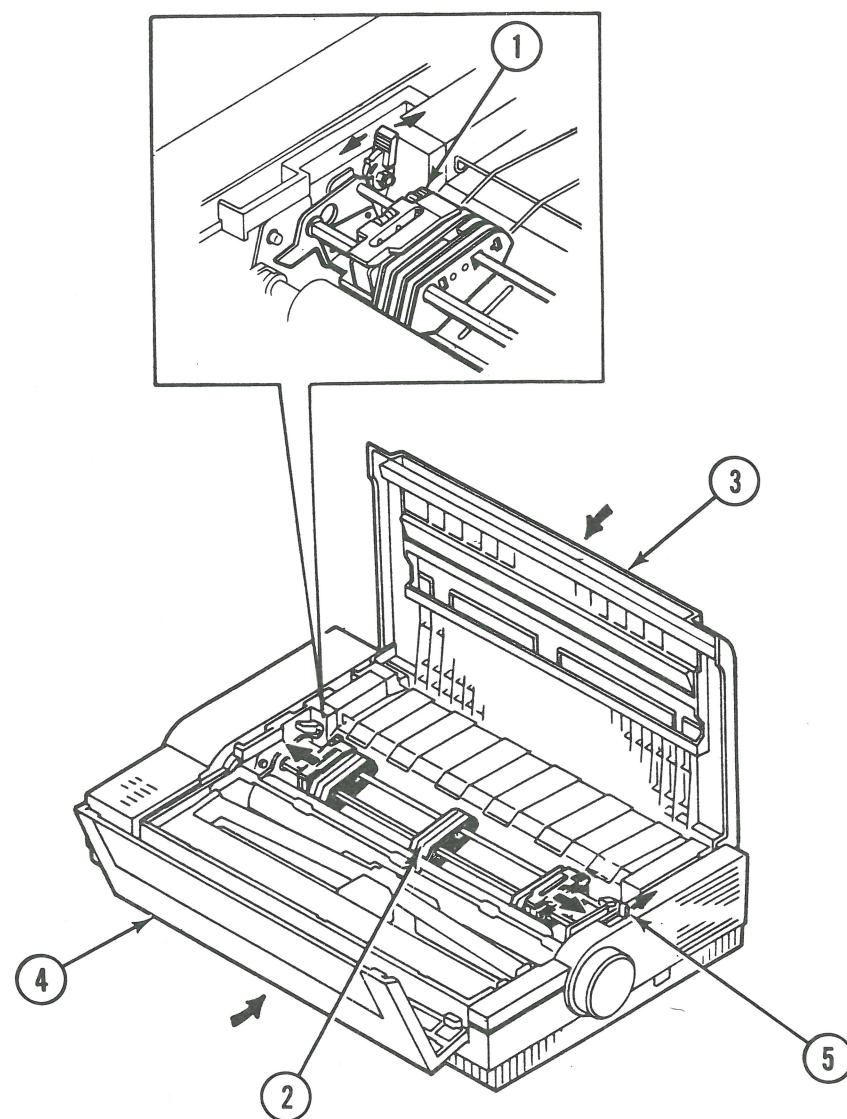

FIGURE 4
2. Push the left (Figure 4, #1) and right tractor release levers toward the back of the printer.
5. Move the paper guide (Figure 4, #2) until it is approximately one third of the way from the left side of the printer.
6. Close the rear cover (Figure 4, #3) and then the front cover (Figure 4, #4).
7. Push the friction release lever (Figure 4, #5) toward the back of the printer to the friction feed position.